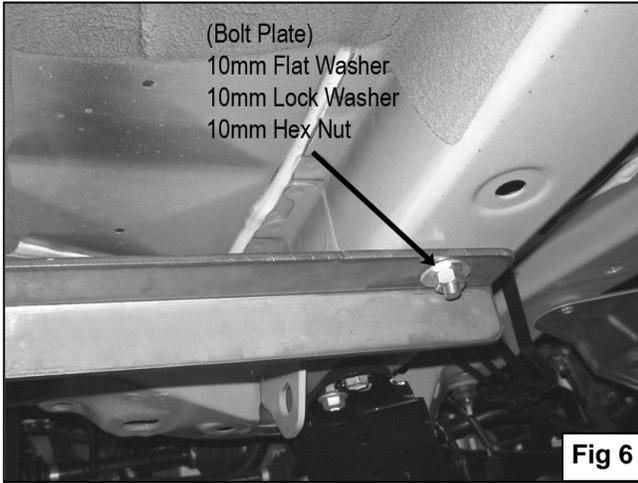

Fig 6
6. Attach the inside of the Mounting Bracket to Bolt Plate already inserted in the frame rail using the included (1) 10mm Lock Washer, (1) 10mm Flat Washer, and (1) 10mm Hex Nut. **IMPORTANT!** Make sure that the Bolt Plate doesn't disengage when mounting the Bracket to the vehicle (**Figures 6 & 7**).